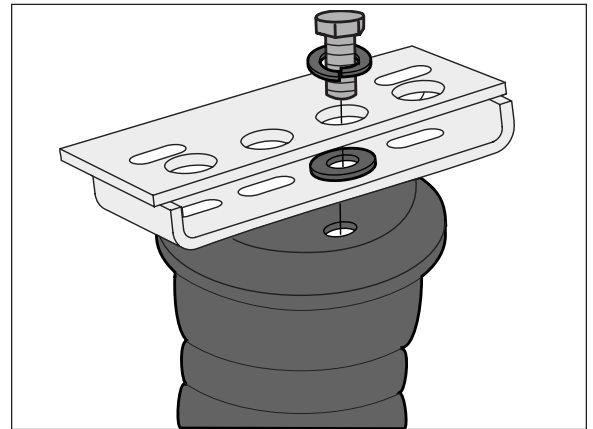

Figure 5
Attach the upper brackets (C) to the air springs with two 3/8-24x7/8” hex head bolts (I), lockwashers(S) and flat washers (M). Leave loose at this time (Fig. 5).